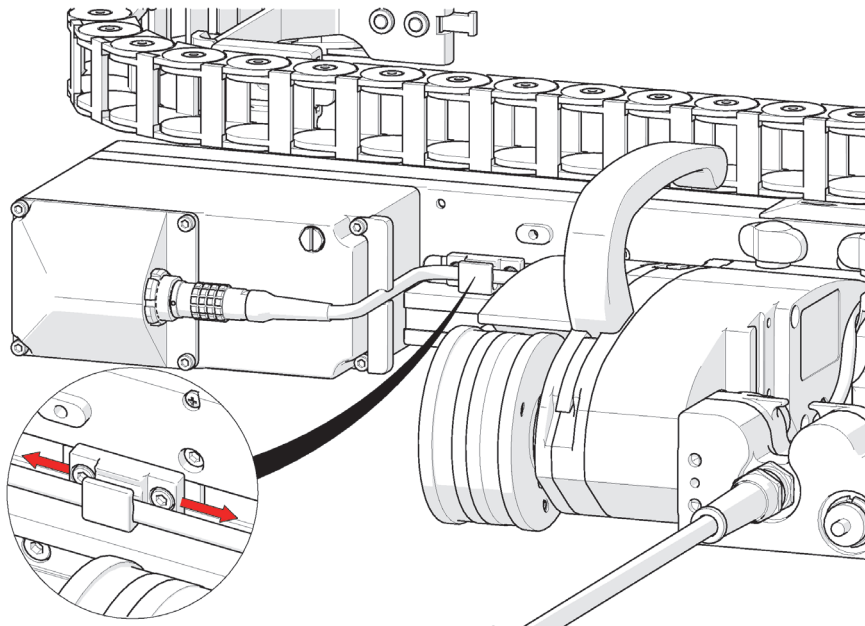

Figure 2-47 Adjustable cable clips
3. Route the cable through the adjustable clips on the raster arm (see Figure 2-47 on page 88).